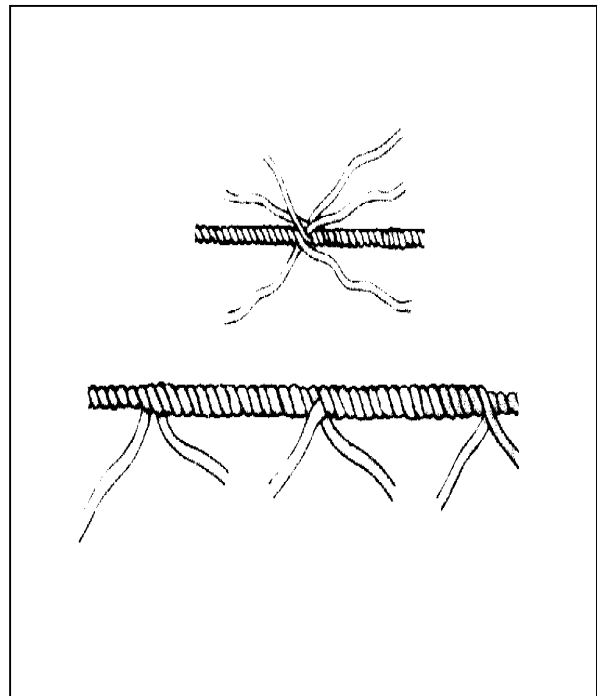

Figure 11-8. Long splice
j. **Long Splice.** A long splice (Figure 11-8) is another way to join two lines. Although it is weaker than a short splice and uses more line, it does not add much to the diameter of the line. The long splice can usually pass through rings, grommets, and other tent hardware.